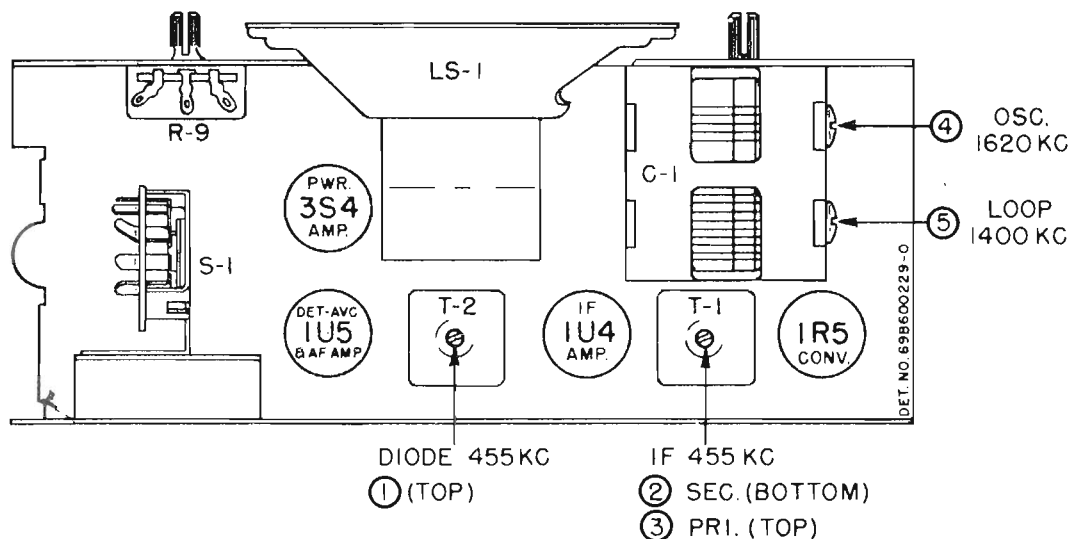

FIGURE 2. TUBE & TRIMMER LOCATIONS
7. See Figure 2 for adjusting locations and the following chart for procedure.